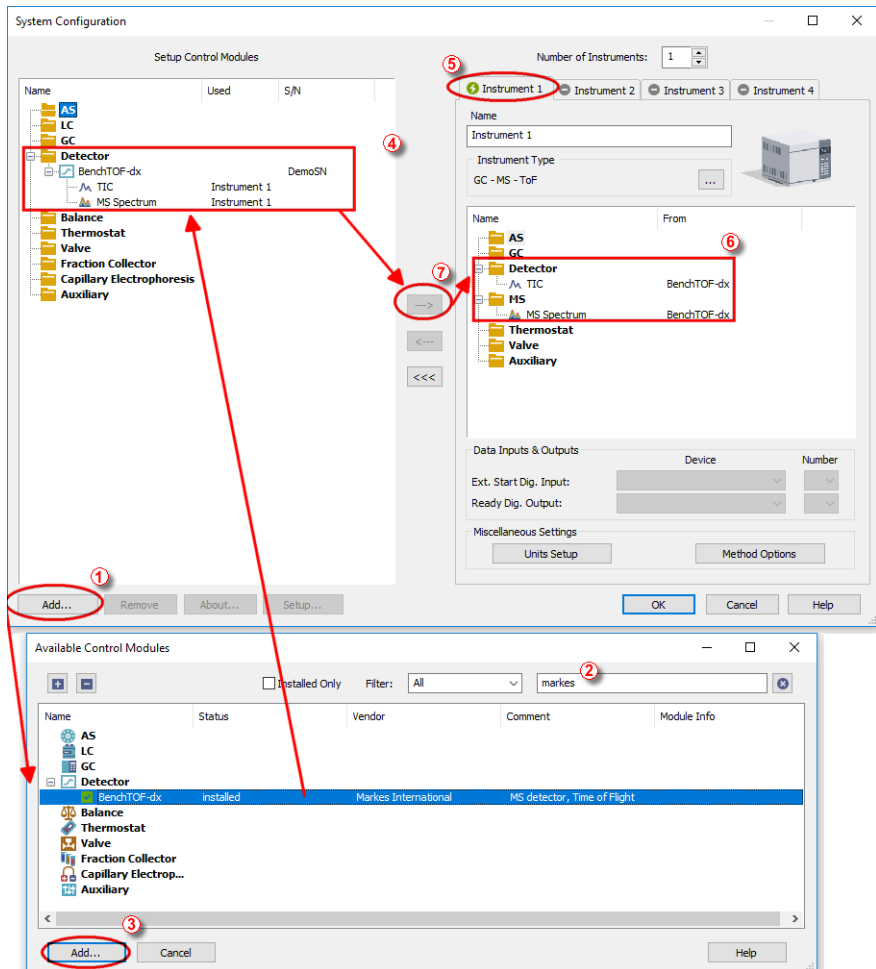

Fig 2: How to add Markes BenchTOF
- Press the **Add** button ① (see **Fig 2** on pg 3.) to invoke the **Available Control Modules** dialog.
- You can specify the searching filter ② to simplify the finding of the driver.
- Select the **Markes BenchTOF** and press the **Add** ③ button.